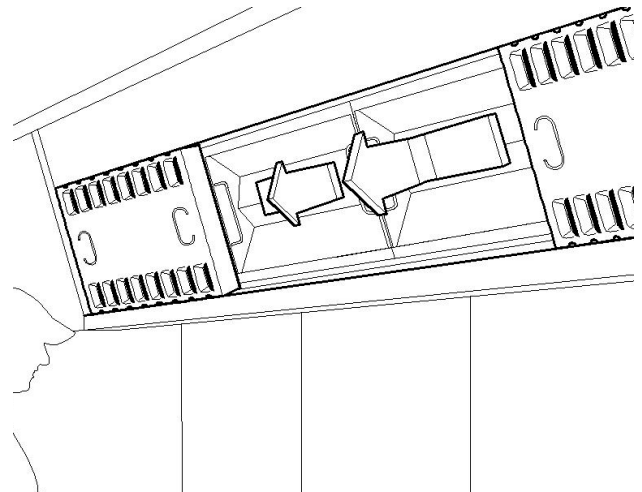

Fig.2 Filter removal detail
- Remove, and repeat see *fig.2*